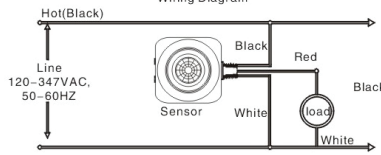

Fig. 3B
- 3.Connect wire per Wiring Diagram as follows: BLACK lead to LINE(HOT);RED lead to LOAD; WHITE lead to NEUTRAL. Twist the existing wires together with the wire leads on YM2501A sensor as indicated below. Cap them securely using the wire nuts provided.(refer to Fig.3B)
5. Feed the sensor wires through the keyed nipple attached to the luminaire or electrical box and connect wires per Wiring Diagram as follows: Twist the existing wires together with the wire leads on YM2501A sensor as indicated above. Cap them securely using the wire nuts provided. (refer to Fig.3B)